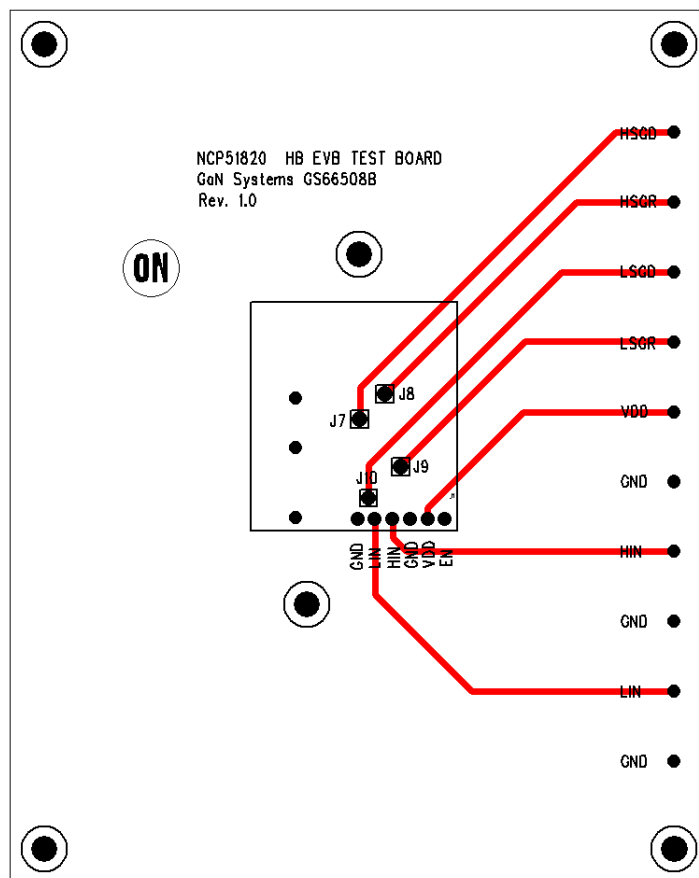

Figure 3. NCP51820 HB EVB Test Board
- **(1) NCP51820 HB EVB Test Board (see Figure 3)**